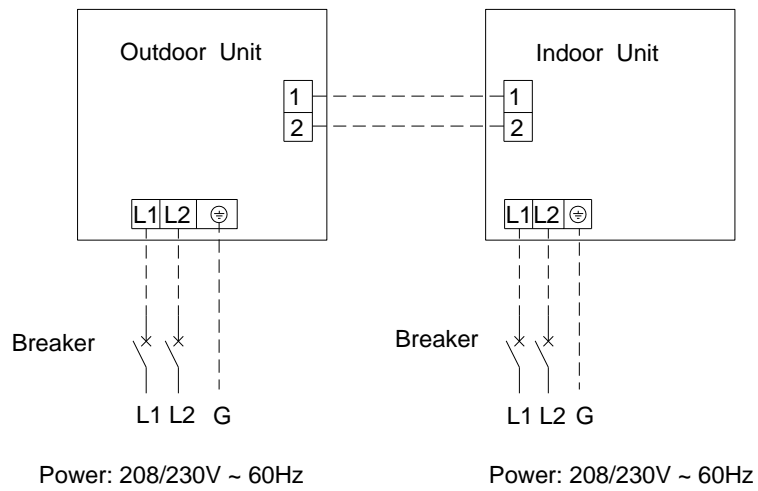

Figure 3-4-4
| ⑦. Connect the indoor unit connection cord properly based on the corresponding marks as shown in Figure 3-4-4.  |